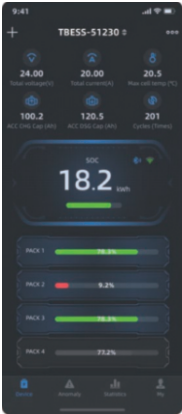

Figure 1
1)Figure 1: Display battery system information in sequence from top to bottom: